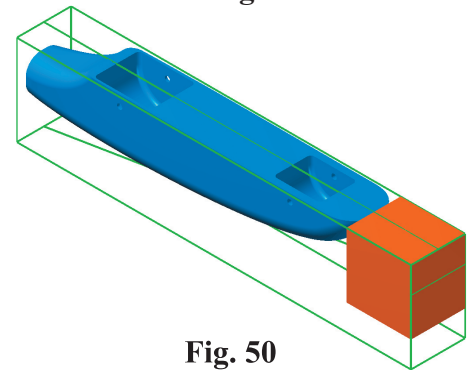

Fig. 50
Step 2. Click View Menu > Orient > Flip Y for Z, Fig. 50.